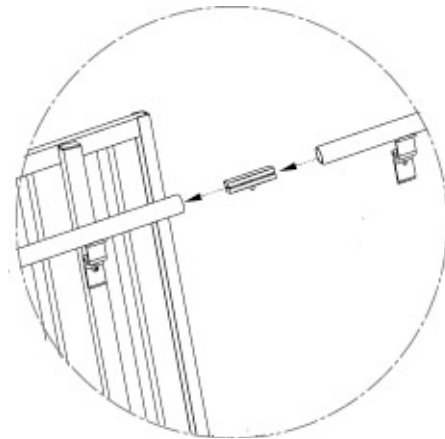

FIG. 32
- 7.1.4 Install 4" joiner assembly to up hill end of the previously installed handrail section (FIG. 32), passing the next handrail section over the joiner assembly, then secure to guardrail in same manner as previous handrail.